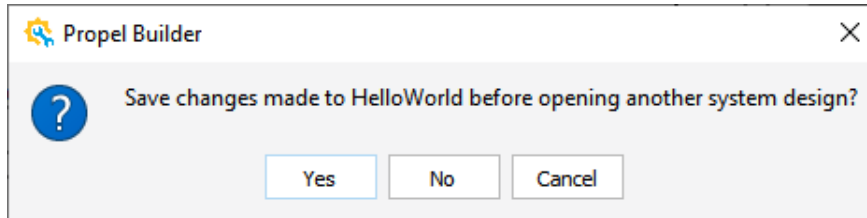

Figure 2.88. Propel Builder Dialog Box
2. Click **Switch Verification and Soc Design** icon  from Propel Builder GUI Toolbar. Propel Builder dialog box opens (Figure 2.88), if a project is not saved.